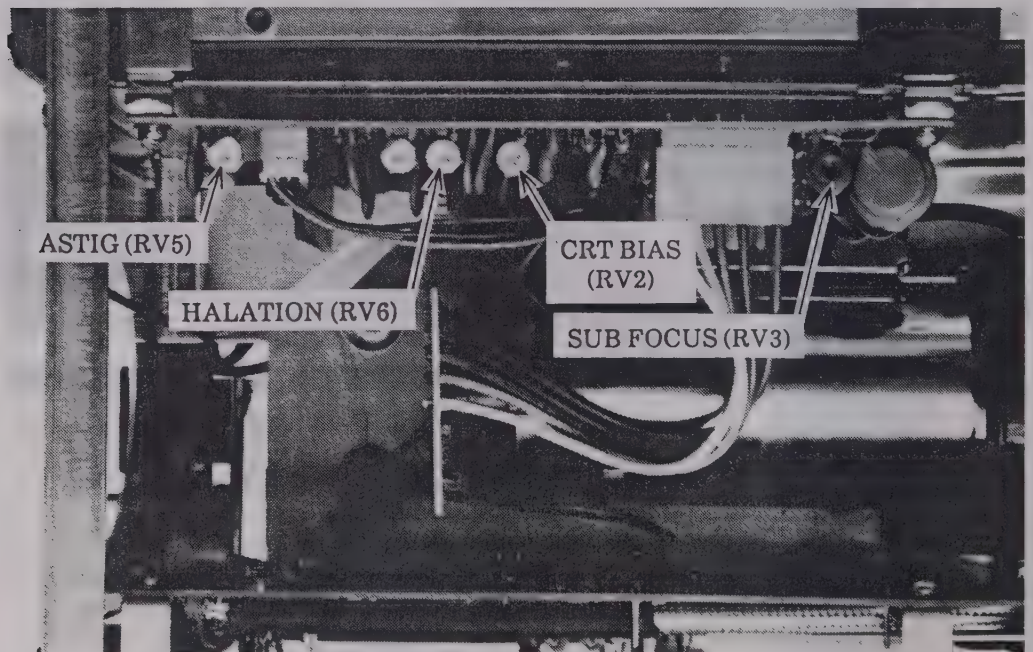

Fig. 4-11 Adjustment position of CRT circuit [ASTIG (RV5), SUB FOCUS (RV3) HALATION (RV6), CRT BIAS (RV2)]
- (1) Set the input coupling of CH1 and CH2 to "GND".
- (2) Set "HORIZ MODE" to "X-Y", and using each of the horizontal and vertical "POSITION" controls, output a bright spot at the center of the CRT screen.
- (3) Rotate "FOCUS" knob to a suitable position, and confirm whether or not the bright spot can be made to approach a circle without limit. If the bright spot does not approach a circle, adjust ASTIG (RV5) on board A6 shown in Fig. 4-11.
Set the white dot on "FOCUS" knob to the 12 O'clock position, and confirm whether or not the electron beam is correctly focused. If the electron beam cannot be correctly focused when "FOCUS" knob is set to the 12 O'clock position, adjust SUB FOCUS (RV3) on board A6 shown in Fig. 4-11.
Confirm that the characters near the periphery of the CRT are not blurred. If they are blurred, adjust HALATION (RV6) on board A6 shown in Fig. 4-11.
- (1) Set "TIME/DIV" to 1ms/DIV, and draw a single horizontal line trace across the CRT screen.
- (2) Set the white dot on "INTEN" knob to the 10 O'clock position, and confirm that the trace is faintly visible. If the trace is either too bright or cannot be seen at all, adjust CRT BIAS (RV2) on board A6 shown in Fig. 4-11.